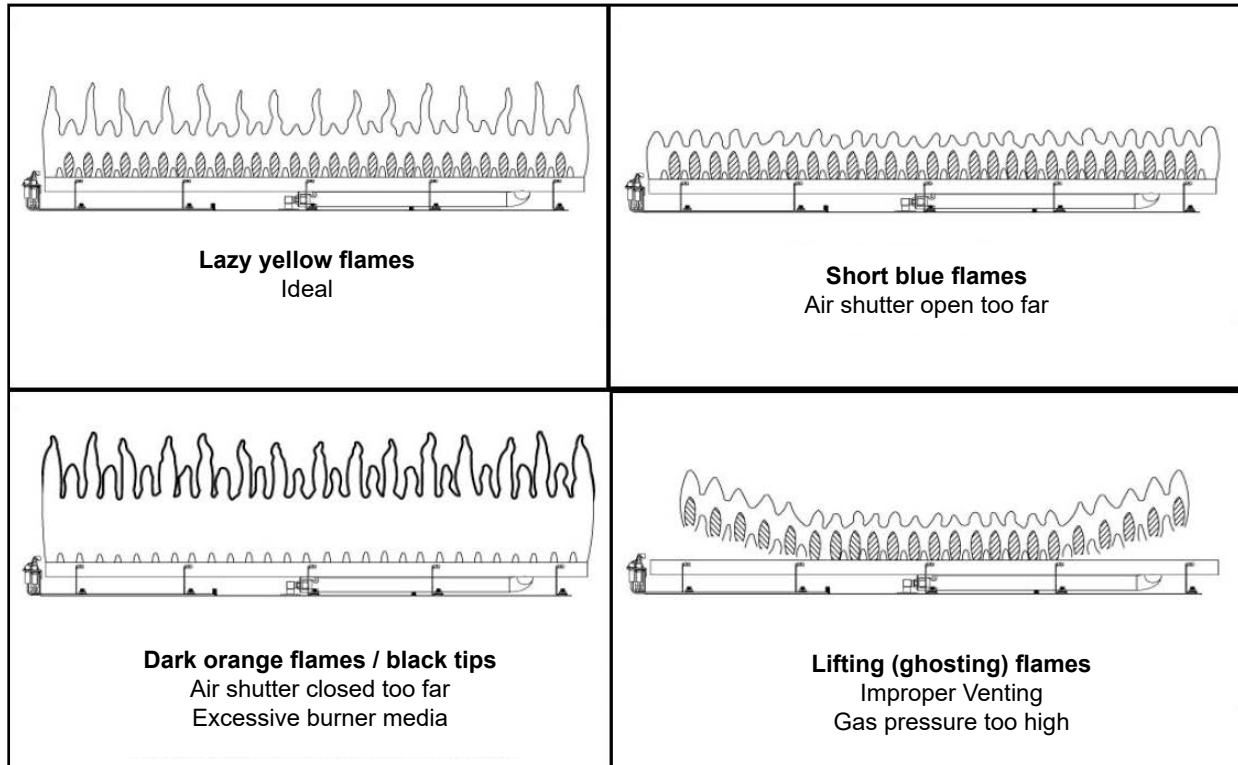
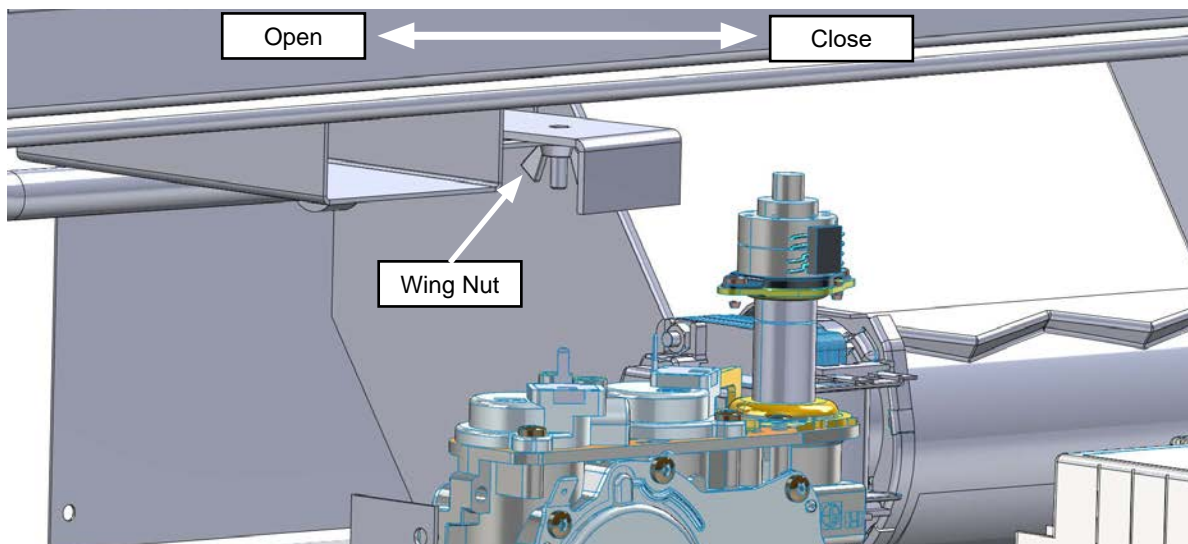

Figure 18.5.01:
Figure 18.5.02:
- Inspect and ensure the lighting of the main burner occurs within 4 seconds of the main gas valve opening. Flames should match those shown in **Figure 18.5.01**
The **UF0200** includes an air shutter located under the firebox which may be used to adjust the primary air to achieve the ideal flame as shown in **Figure 18.5.01**. To adjust, loosen the wing nut on the air shutter and adjust as shown in **Figure 18.5.02**. To open the air shutter and increase air flow to the burner, slide the air shutter to the left. To close the air shutter and decrease air flow to the burner, slide the air shutter to the right. Tighten the wing nut when the desired flame appearance is achieved.